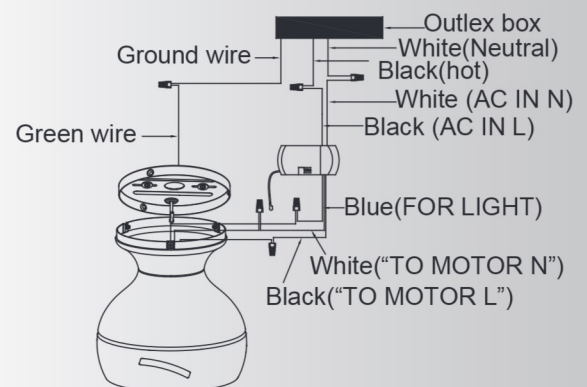

Fig. 9
Step 1. Motor to Receiver Electrical Connections: Connect the BLACK wire from the fan to BLACK wire marked "TO MOTOT L" from the receiver. Connect the WHITE wire from the fan to the WHITE wire marked "TO MOTOR N" from the receiver. Connect the BLUE wire from the fan to the BLUE wire marked "FOR LIGHT" from the receiver. Secure all the wire connections with the plastic wire nuts provided. (Fig. 9)
Step 2. Remote Receiver to Outlet Box Electrical Connections: Connect the BLACK (hot) wire from the ceiling to the BLACK wire marked "AC in L" from the receiver . Connect the WHITE (neutral) wire from the ceiling to the WHITE wire marked " AC in N" from the Receiver . Secure the wire connections with the plastic wire nuts provided . (Fig. 9)
Step 3. If your outlet box has a ground wire (green or bare copper) connect it to the fan ground wires : Secure the wire connection with a plastic nut provided. After connecting the wires, spread them apart so that the green and white wires are on one side of the outlet box and black wire is on the other side. (Fig. 9)